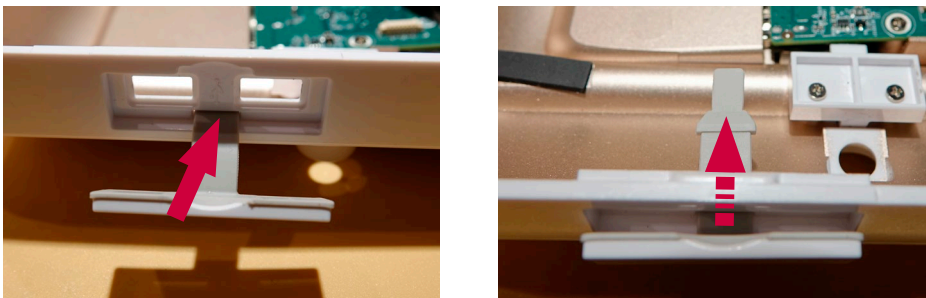

Figure 26 Install a new USB cover
- b) Insert the new USB cover from the outside of the casing. Gently push the flexible joint in place with a flat screwdriver, taking care not to damage the rubber (Figure 26)